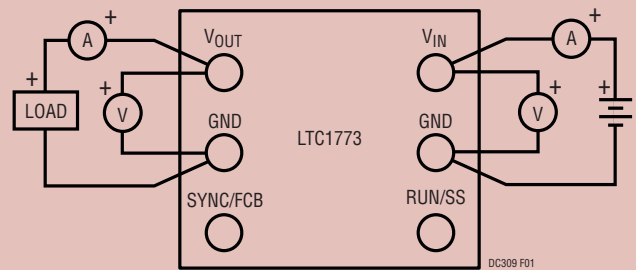

Figure 2. Proper Measurement Setup
6. Connect the load between the V_{OUT} and GND terminals. Refer to Figure 2 for proper measurement equipment setup.